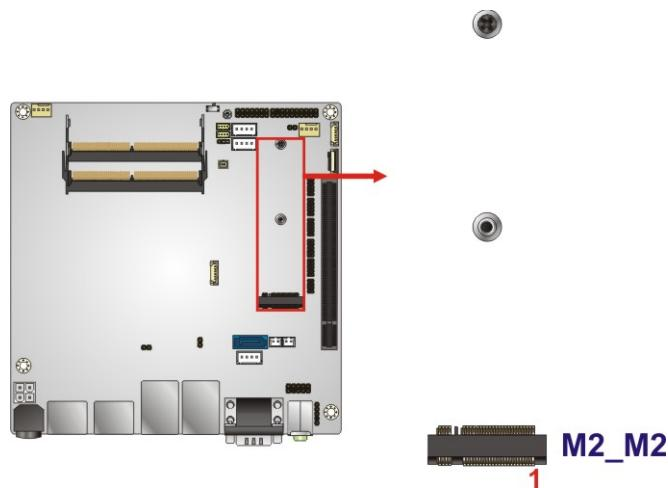

Figure 3-14: M.2 Slot Location
- CN Location:** See Figure 3-14